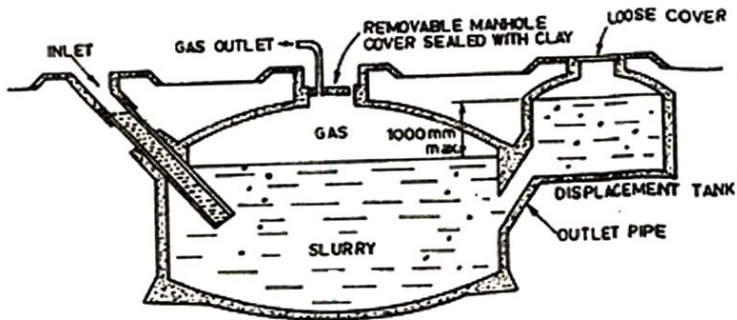

Figure 1 Fixed dome (Chinese) digester
Fig. 1. Sketches of the anaerobic contact (A), anaerobic filter (B), upflow anaerobic sludge bed (C), anaerobic fluidized or expanded bed (D), and downflow stationary fixed film (E) reactors.